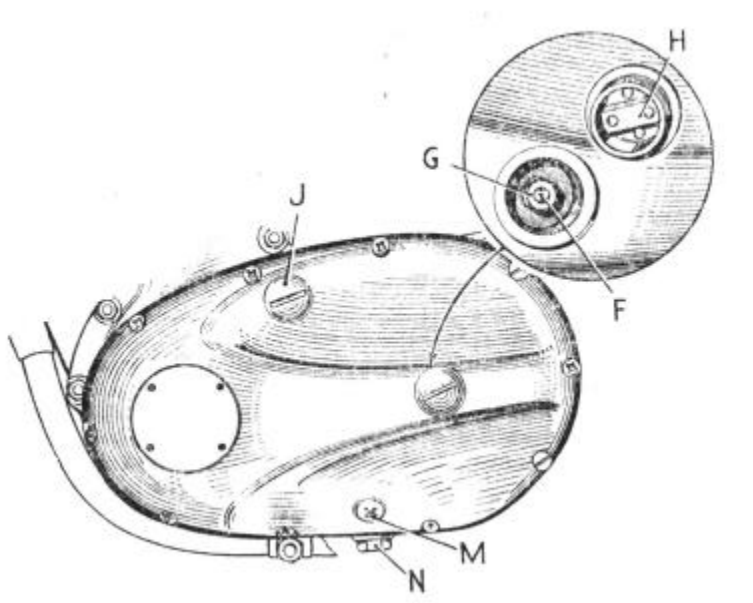
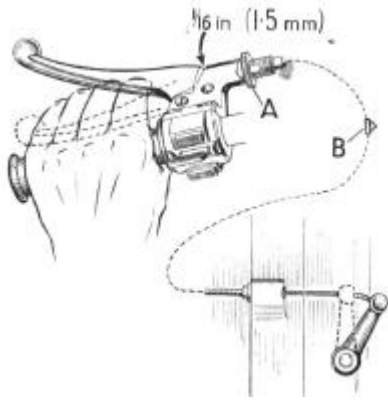

Figure 22. Clutch adjustment and chaincase oil level.
FIGURE 23.
An adjustable slipper-type tensioner is provided for the chain and its slackness can be tested after removal of the filler cap (J) Fig. 22. The chain is in correct adjustment when there is a minimum of 1/8" and a maximum of 1/4" of free play at the midway position between the sprockets.
On all models there is a small oil supply from the primary chaincase through the non-adjustable metered feed on to the rear chain, so that on the 250 cm³ engines, the oil level can be expected to fall very slowly. The screw (M) Fig. 22, determines the oil level. To replenish with oil, first remove this screw and then the filler cap (J) at the top of the chaincase. Add oil of the correct grade (see "Recommended Lubricants" page 28) and allow to stand until any surplus oil has drained away. Replace the level screw and inspection cap. The machine should be on horizontal ground when this operation is carried out. A drain plug is provided at (N) for draining the case at regular intervals (see page 27).
The main adjustment consists of a screw pin (F) and locknut (G) mounted on the clutch pressure plate. These are accessible after removal of the inspection cover (H) Fig.22
If adjustment is necessary, slacken off the handlebar cable adjuster (A) Fig. 23, and release the cable from the control lever above the timing cover on the right-hand side of the motor. Release locknut (G) Fig. 22, and adjust the pin (F) until the control lever is inclined outwards by a small amount. Add a short length of tubing to the lever to provide additional leverage and disengage the clutch, when the lever should take up a position approximately parallel with the timing cover joint face. If necessary the adjustment must be modified until this condition is obtained.
Finally reconnect the cable to the control lever and readjust the cable length at the handlebar lever until there is about 1/16" of free play (see Fig. 23).